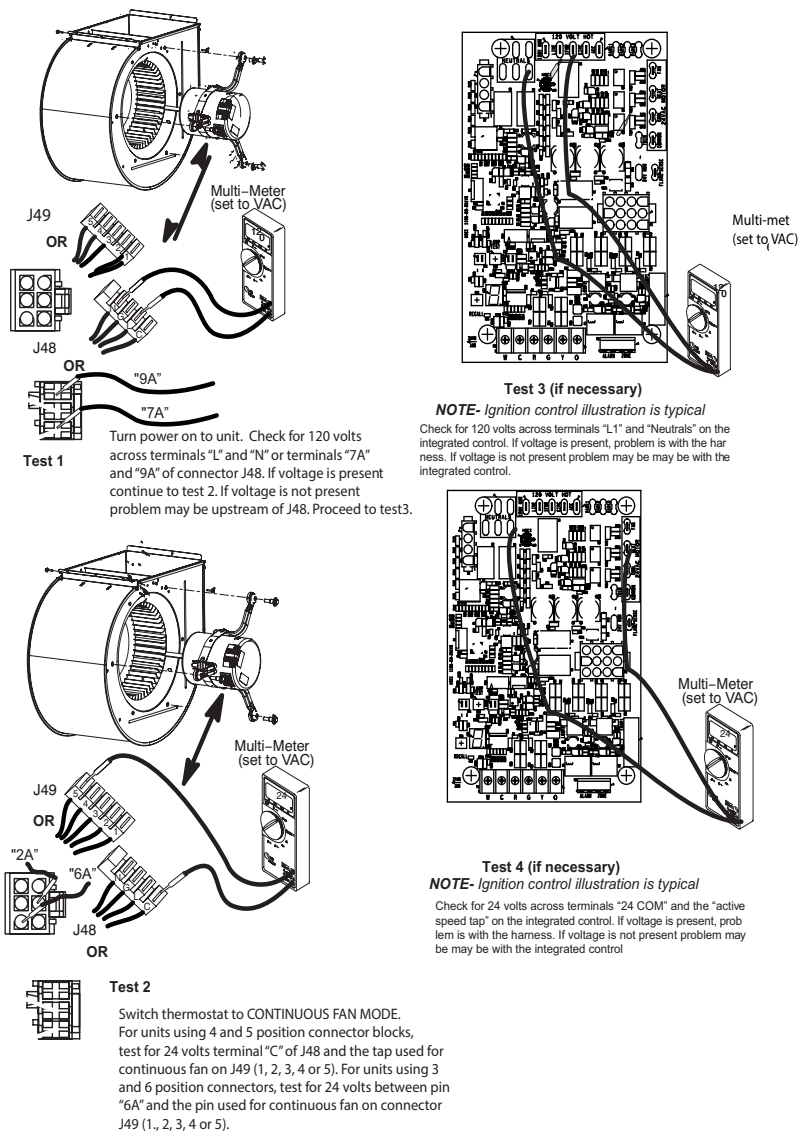

FIGURE 19
- 2 - Remove input connectors J48 and J49 motor. See FIGURE 19 for troubleshooting procedure.